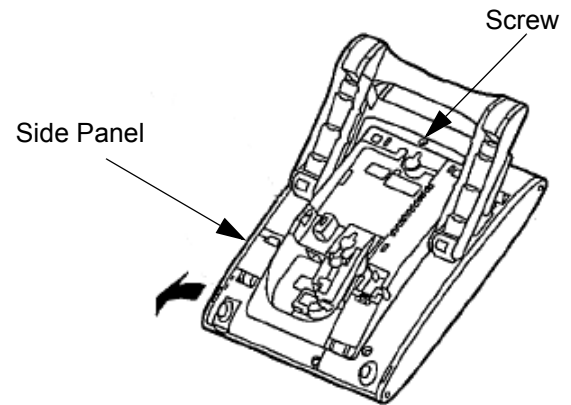

Figure 5-100 Install Screw
13. Attach the side panel to the side of the 8LKD (LD)-L UNIT (refer to Figure 5-100 Install Screw on page 5-95).
12. Install screw (refer to Figure 5-100 Install Screw).
13. Attach the side panel to the side of the 8LKI (LD)-L UNIT (refer to Figure 5-100 Install Screw).